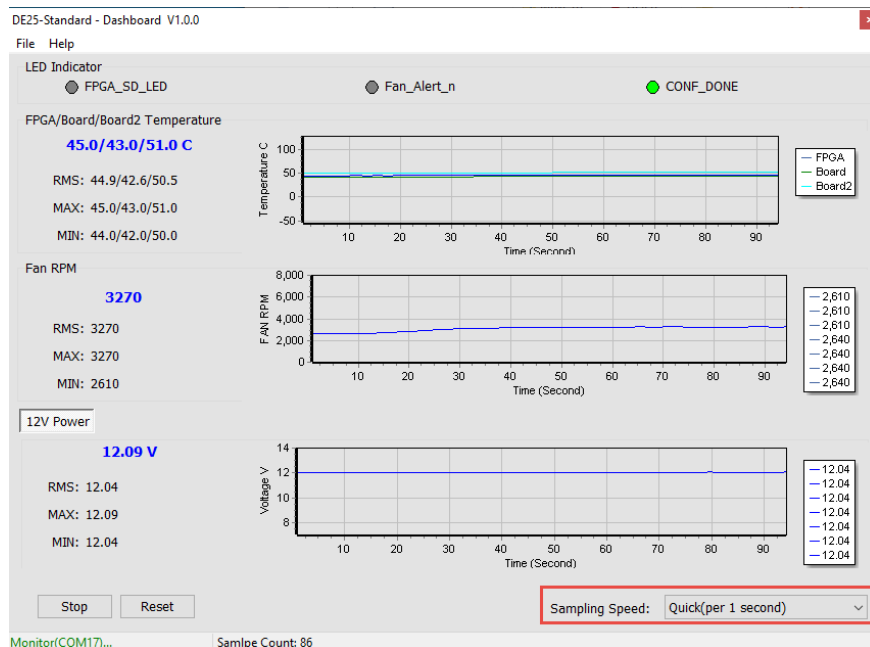
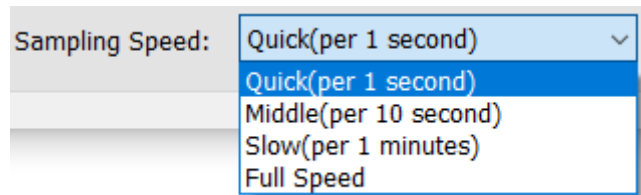

Figure 4-13 Sampling speed section
Figure 4-14 Options of sampling speed
- **Sampling Speed:** This sets the sampling interval period used by the Dashboard GUI to 1s, 10s, 1min or Full Speed (0.1s), as shown in **Figure 4-13** and **Figure 4-14**.